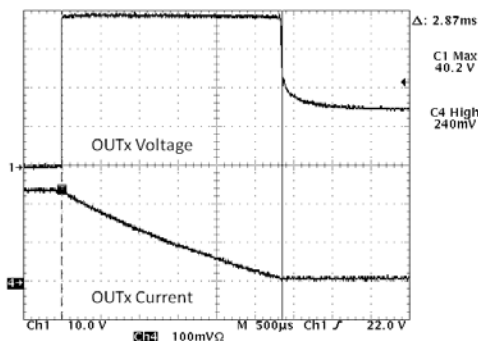

Figure 4. Repetitive Clamping Energy Test
- Testing particulars, 2M pulses,  $V_{bat} = 15$  V, 63 Ω, 390 mH,  $T_A = 25$ °C. (See Figure 4)